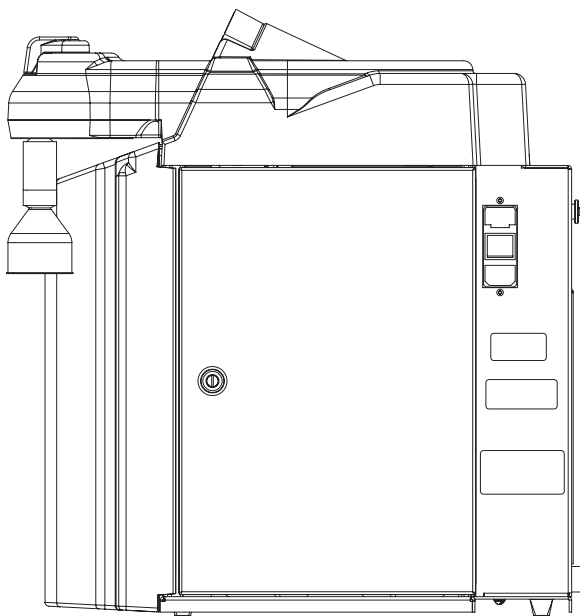

Figure 15: Electrical Connections - Right side view
1. The power cord connection is located on the upper right corner on the right side of the unit (see Fig. 15).